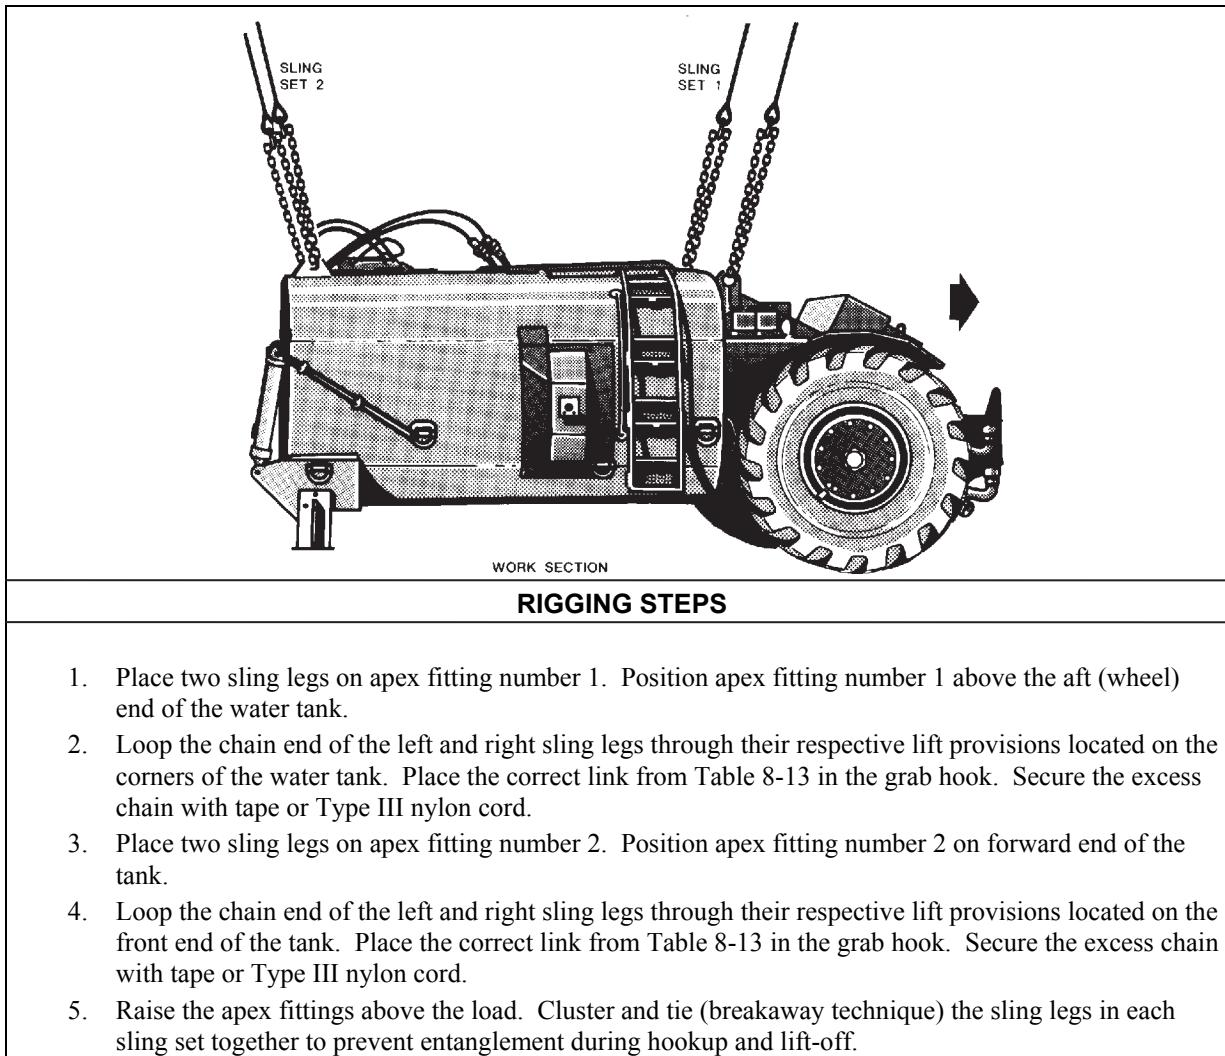

Figure 8-13. 613WDS Water Distributor, Sectionalized
- **Rigging.** Rig the load according to the steps in Figure 8-13.